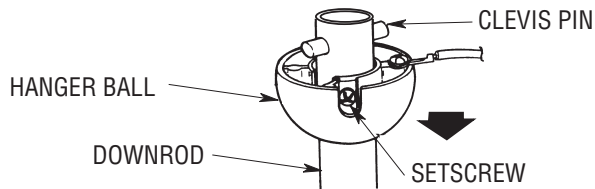

Figure 1
1. Remove the hanger ball by loosening the setscrew in the hanger ball until the ball falls freely down the downrod (Figure 1). Remove the pin from the downrod, then remove the hanger ball. Retain the pin and hanger ball for reinstallation in step 5.